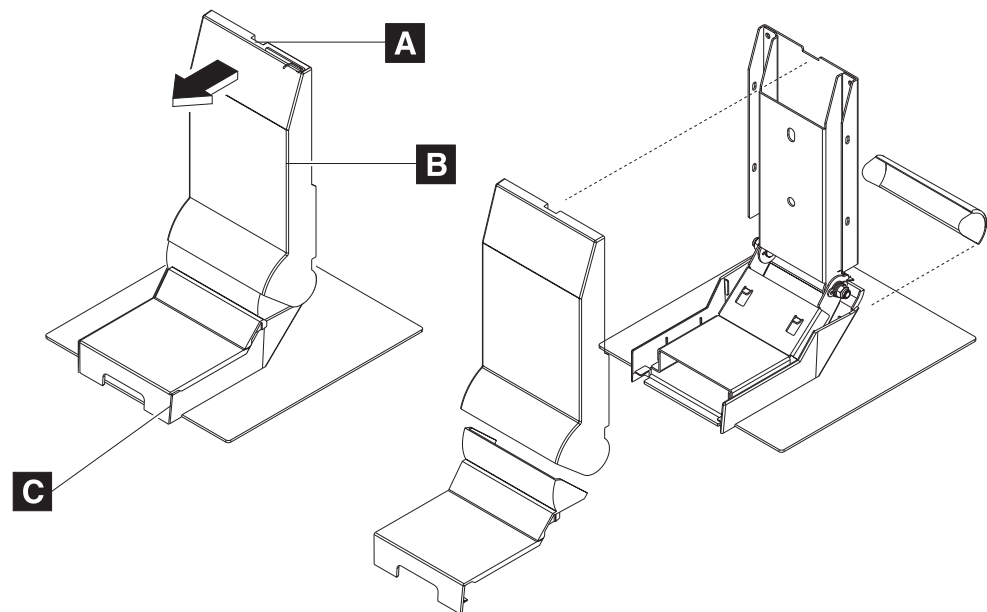

Figure 31. Removing the stand cover set
1. Remove the arm cover (**B**) by pulling on the finger recess (**A** in Figure 31) located on the top of the cover.